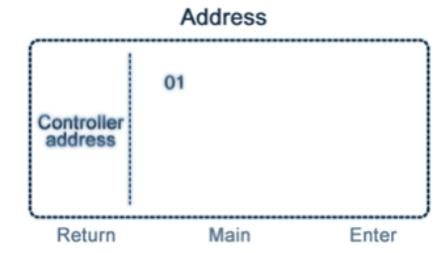
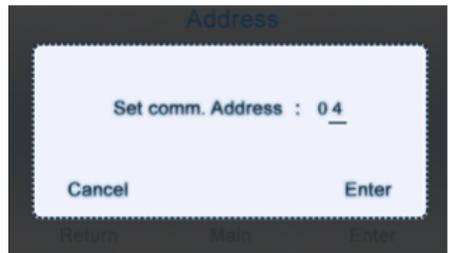

Figure 18
Figure 19
1. Proceed through main interface*Menu*Other *enter the password of the technical personnel*press “Enter” key*Addressing*press “Enter” to enter the interface as shown in Figure 18.
2. Wired controller number, as shown in Figure 18, is set by DIP switch of indoor unit. If one wired controller controls one unit, there is only 01; it displays the unit numbers corresponding to the indoor units in operation.
3. When in the interface as shown in Figure 18, if there are more than one wired controller numbers, use the “upward”, “downward”, “leftward” and “rightward” keys to select a unit number and press “Enter” key; Then the POP window as shown in Figure 19 will appear.
4. When the window in Figure 19 has popped out, the communication unit number of this controller can be set (communication addresses between the outdoor unit and indoor unit) 1-64; use the leftward and rightward keys to adjust the unit digits and tens digits and use the upward and downward keys to adjust the values on the corresponding digits; then press “Enter” or “Cancel” to return to the interface as shown in Figure 18.